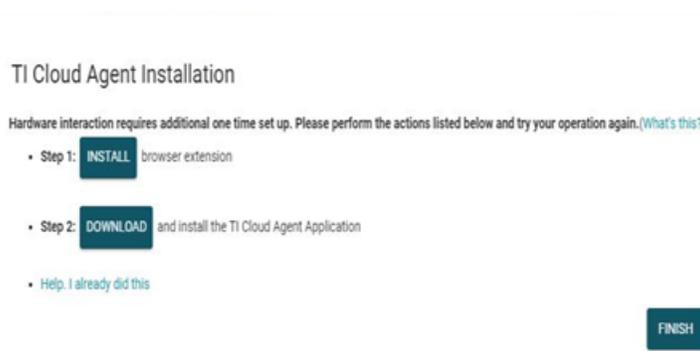

Figure 3-1. Browser Extension and TI Cloud Agent Installation
3. First-time users may be prompted to download and install the browser extension for Firefox™ or Chrome™ and the TI Cloud Agent Application as shown in Figure 3-1. Installing the TI Cloud Agent is a one time download and installation.